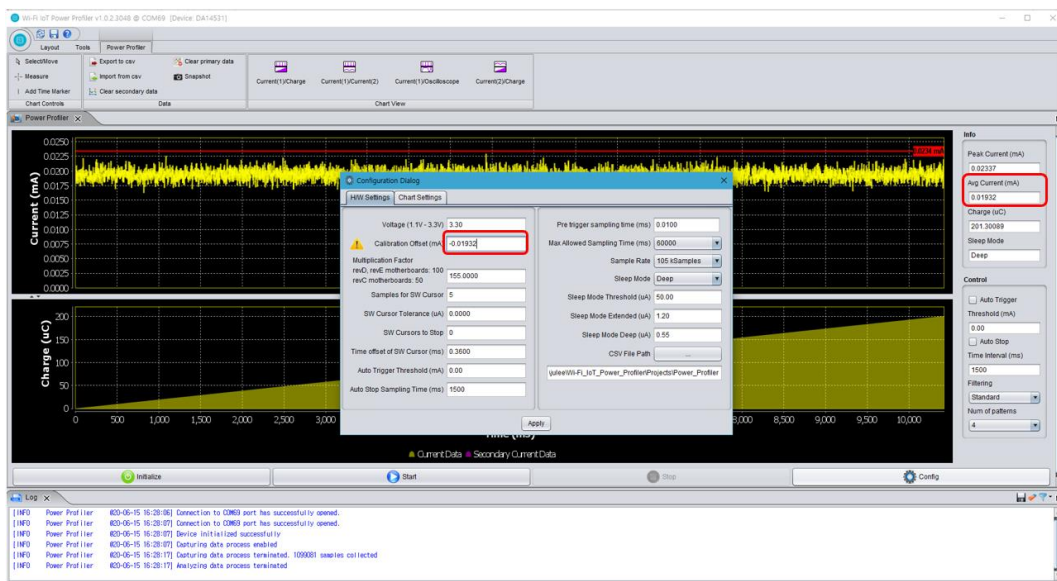

Figure 61: Setting Calibration Offset
3. Run a free running capture for a few seconds and note down the number in the **Avg Current (mA)** field as Figure 61. Note, the last digits of the number keep changing slowly due to temperature drift. It is important to do the calibration steps periodically.
4. Finally, put this average value with a negative sign in the **Calibration Offset (mA)** field. CTRL-C and CTRL-V are also workable as Figure 61.